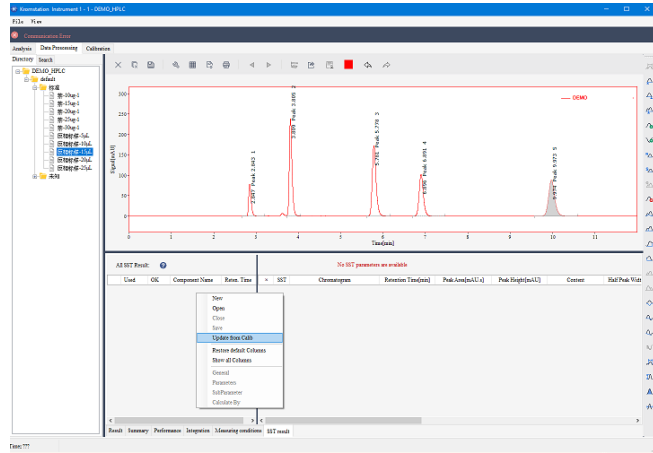

Figure 6-18 Load calibration file
- 4) In the SST drop-down menu, select "Update from Calibration" to load the required calibration file. As shown in Figure 6-18.